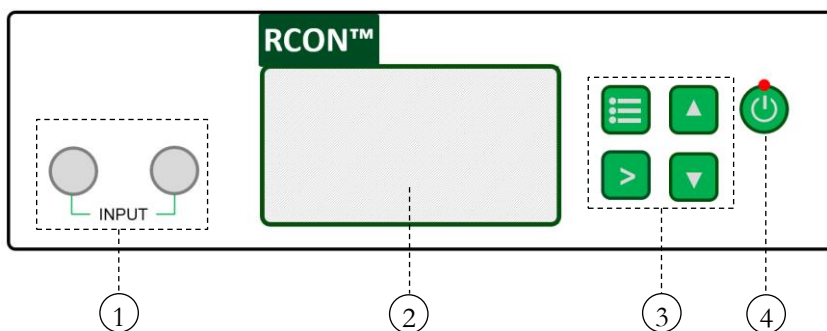
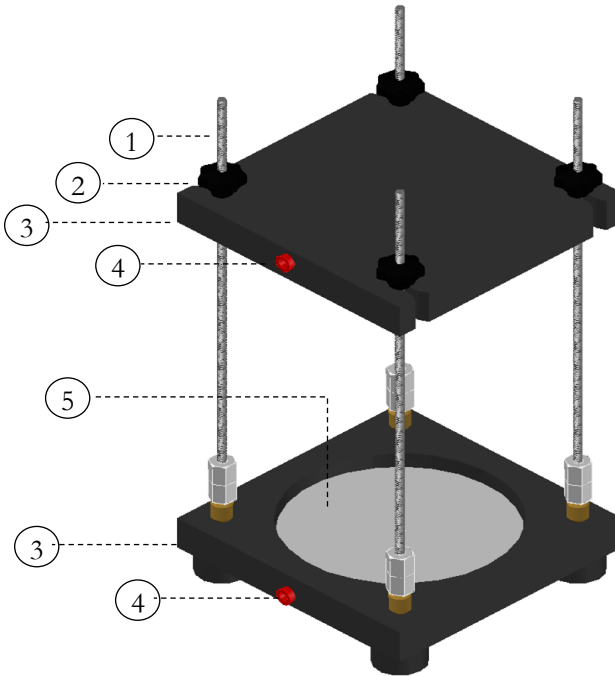

Figure 4. RCON2™ device front panel description
Figure 6. Hardened concrete sample holder description
Giatec RCON2™ has two main components: A measuring device (Figs. 4 and 5), and a sample holder. (Figs. 6 and 7). The measuring device can be used as stand-alone equipment to perform the tests. It can also be connected to a personal computer (PC) using the USB connection port. The Data Monitor software provided in the package controls the device and can be used to record the test data. In this section, the key functions of these components are described.